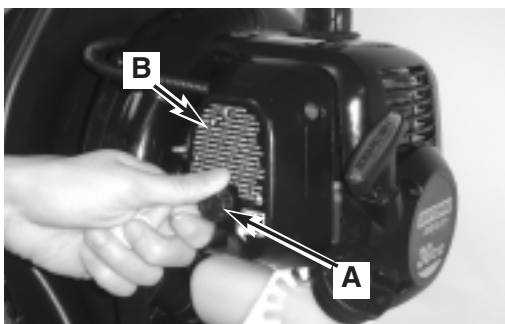
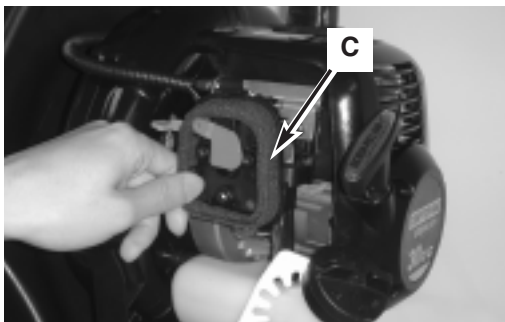

Fig. 20
Fig. 21
1. Loosen knob (A) holding air filter cover in place, remove cover (B) and lift filter (C) from air box (Figure 20 & Figure 21).